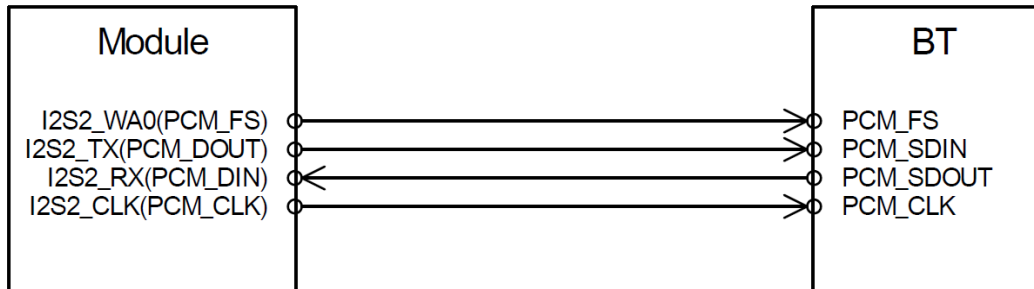

Figure 3-19 Signal Connection for PCM Mode
In the case of the Bluetooth (BT) call, the PCM mode is used to transmit digital voice data if the BT chip does not support I2S. For the scenario, the module works as the PCM master, and BT works as the PCM slave mode. The signal connection under the PCM mode is shown in Figure 3-19: